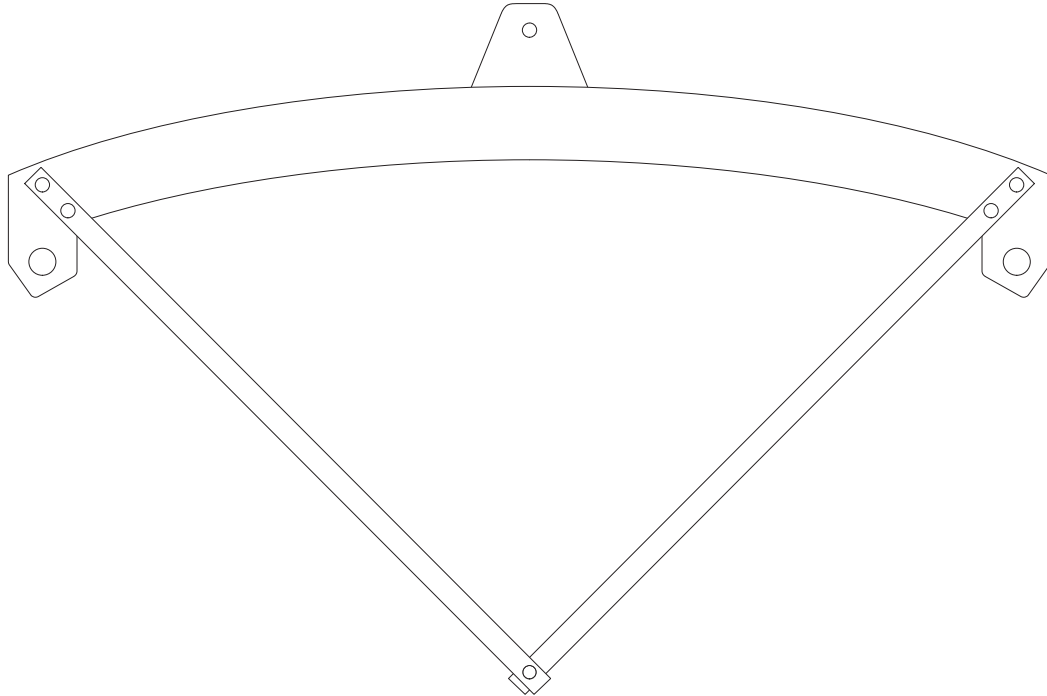

Figure 3-18 RADIAL ALIGNMENT TOOL
- b.) Turn OFF the Gantry HVDC (550) enable switch.
- 4.) Refer to Figure 3-18. Install the rotational alignment tools on the detector.
- e.) Turn ON the gantry HVDC (550) enable switch. (You can leave the axial enable switch in the OFF position for this test.)